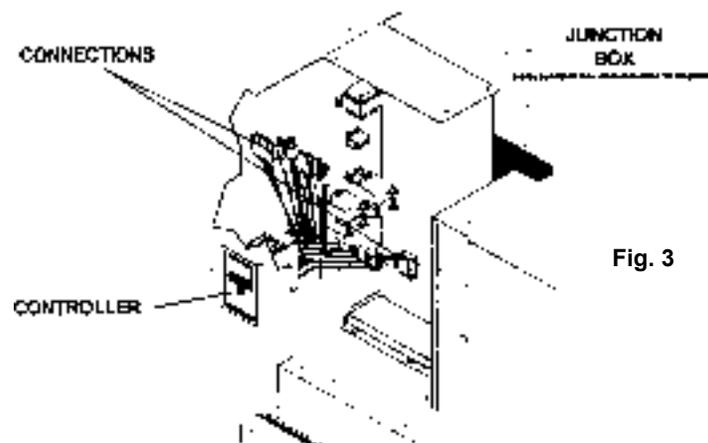

Fig. 3
**STEP 1 -** At front of unit, remove two (2) slot head thumbscrews from bottom corners of louver assembly. Set thumbscrews aside.
**STEP 3 -** Remove two (2) Slot head thumbscrews from top of louver assembly. Set thumbscrews and louver assembly aside.
**STEP 4 -** At the top of the junction box, remove three (3) Phillips head screws. Set screws aside.
**STEP 5 -** Locate one (1) Phillips head screw at bottom of junction box, and remove. Set screw aside.
**STEP 6 -** Carefully slide junction box away from front of unit until all wiring and connections to the controller are exposed (see figure 3).